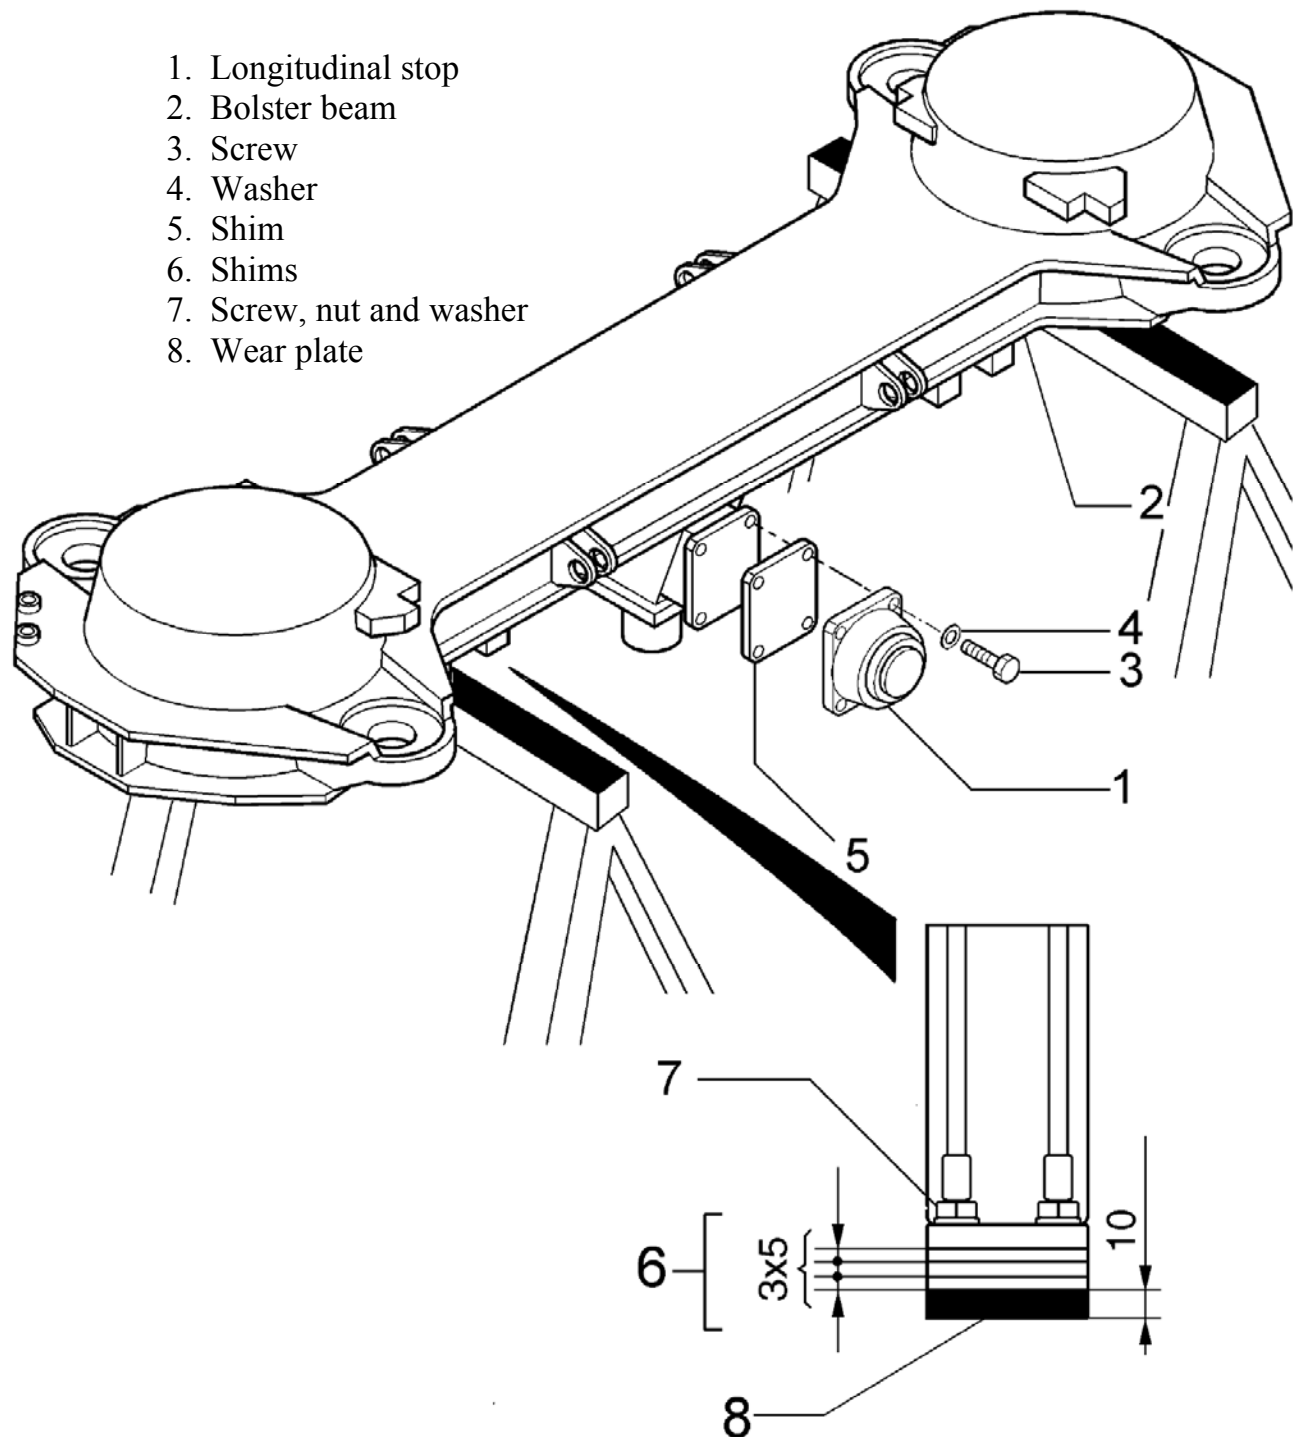

FIG. 4.28 REMOVING BUMP STOPS AND SHIMS FROM THE BOLSTER BEAM
It is finally possible to remove the longitudinal bump stops (1 - FIG. 4.28) and the shims (5) from the bolster beam (2), extracting the screws (3) and the washers (4). Remove the shims (6) and the wear plate (8) under the bolster beam extracting the screws, nut and washers (7).